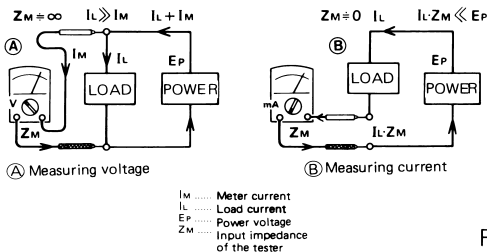

Fig. 1
Fig. 1 ① is a standard measuring way of voltage while Fig. 1 ② a standard measuring way of current. Voltage measurement is to detect the potential difference between two points, so the voltage range must be connected in parallel with measured circuit.
- Connect the tester range in series with measured circuit through load as Fig. 1 ⑧. Be sure not to apply any voltage to DCmA ranges.